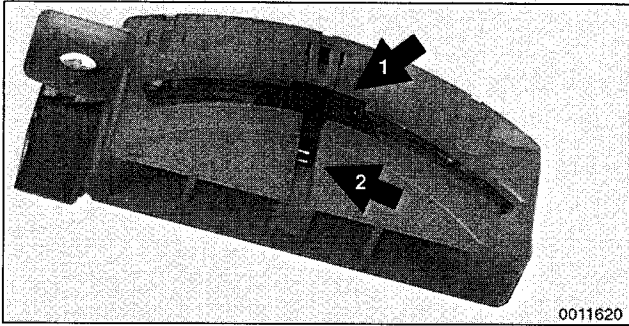

Fig. 10. Align contact slide (1) with slot in switch housing (2) before installing gear position/neutral safety switch.
- Before installing switch, align plastic contact slide inside switch with slot in switch. See Fig. 10.